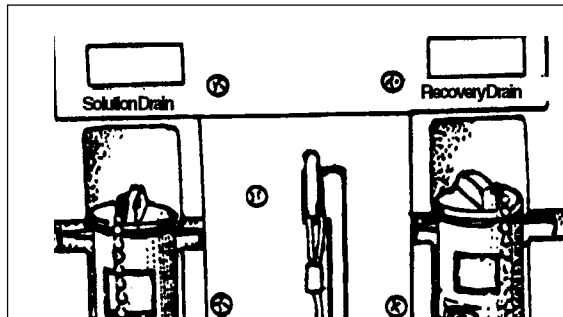

Figure 27
7. Make sure the solution and recovery drain hoses are in position on the back of the machine. See figure 27. Secure the hose drain plugs.